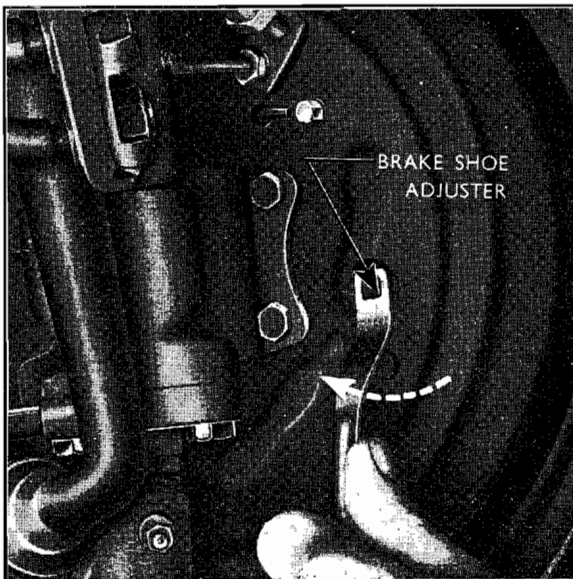

Fig. 2
Adjust each front brake shoe individually : there is one square-headed snail-cam adjuster for each brake shoe, i.e., two on each brake plate, which both turn clockwise (when viewing the brake plate) to expand the shoes. Refer to Fig. 2 when adjusting the brakes.
3. Slacken the locknut on the adjuster sleeve provided on the brake outer conduit, located in the drive shaft tunnel (see Fig. 2). Tighten the adjusting nut on the threaded sleeve until all play is taken out of the handbrake cable. Tighten the locknut.